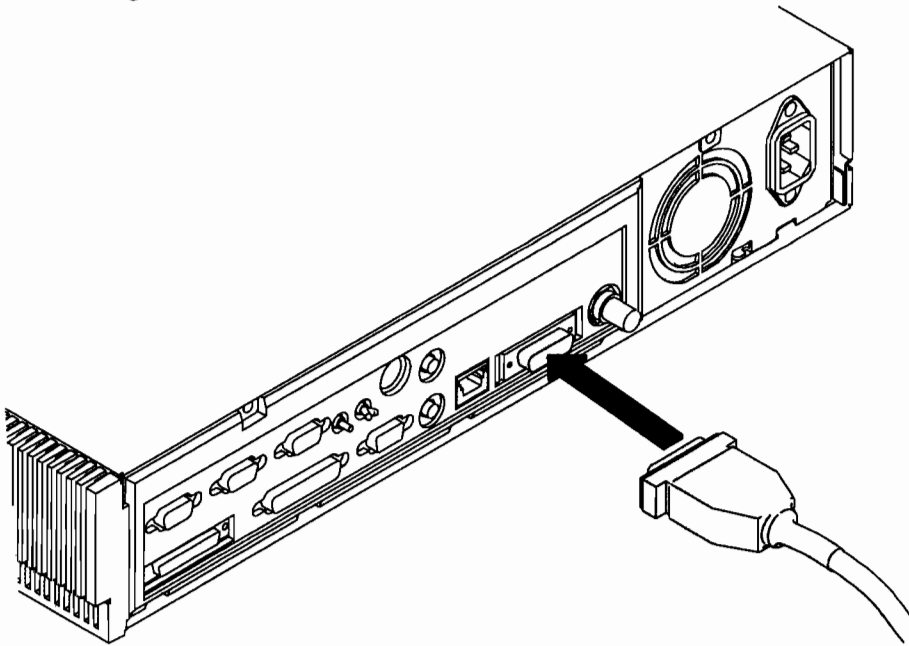

Figure 9-6. Connecting the 802.3 Cable to the AUI Connector
1. Connect the network cable to the system unit's AUI connector as shown in Figure 9-6. Slide the lock closed to secure the connection.